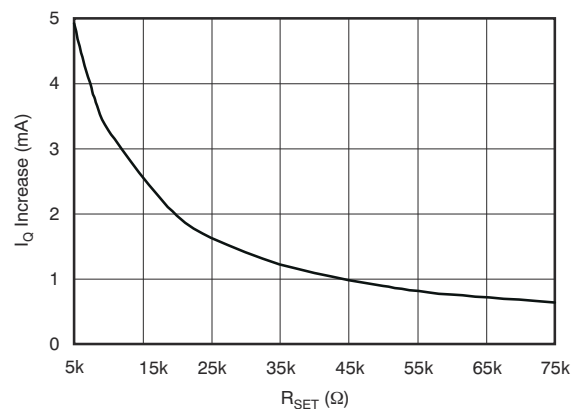

图 6-33. Quiescent Current Increase vs R_{SET}
(1) See 节 6.6.
(2) Under safe operating conditions; see also 节 8.1.4.
(3) Minimum current limit is 0.4A ; see also 节 7.3.1.
(4) Quiescent current increases when the current limit is increased (see also 图 6-33).
(5) R_{SET} (current limit) ranges from $55\text{k}\Omega$ ($I_{OUT} = 400\text{mA}$) to $10\text{k}\Omega$ ($I_{OUT} = 1.6\text{A}$ typical); see also 节 7.3.1.
(6) Transient load transition time must be $\geq 200\text{ns}$.
(7) See also 节 7.3.2.
(8) When sourcing, the V_{DIG} supply must be able to supply the current.
(9) Characterized, but not production tested.
(10) Power-supply sequencing requirements must be observed. See 节 8.3 for more information.